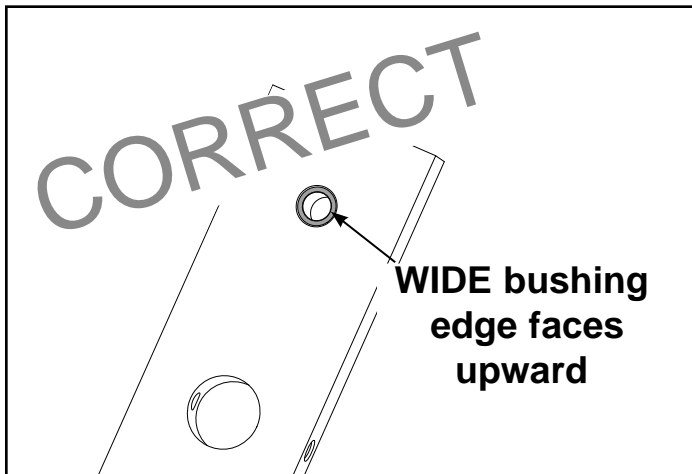

Figure 11A
- H. Carefully install each weight plate one at a time. **NOTE:** When installing weight plates, position plates so wide edges of bushing face upward and narrow edges of bushing face downward. See Figures 11A and 11B.